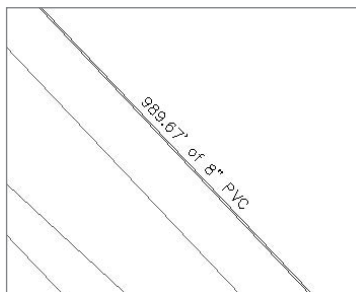

Figure A.113
8. At the Specify label location on pipe: prompt, click anywhere on one of the middle pipes. A label will appear that lists the combined length of all five pipes, as shown in Figure A.113.